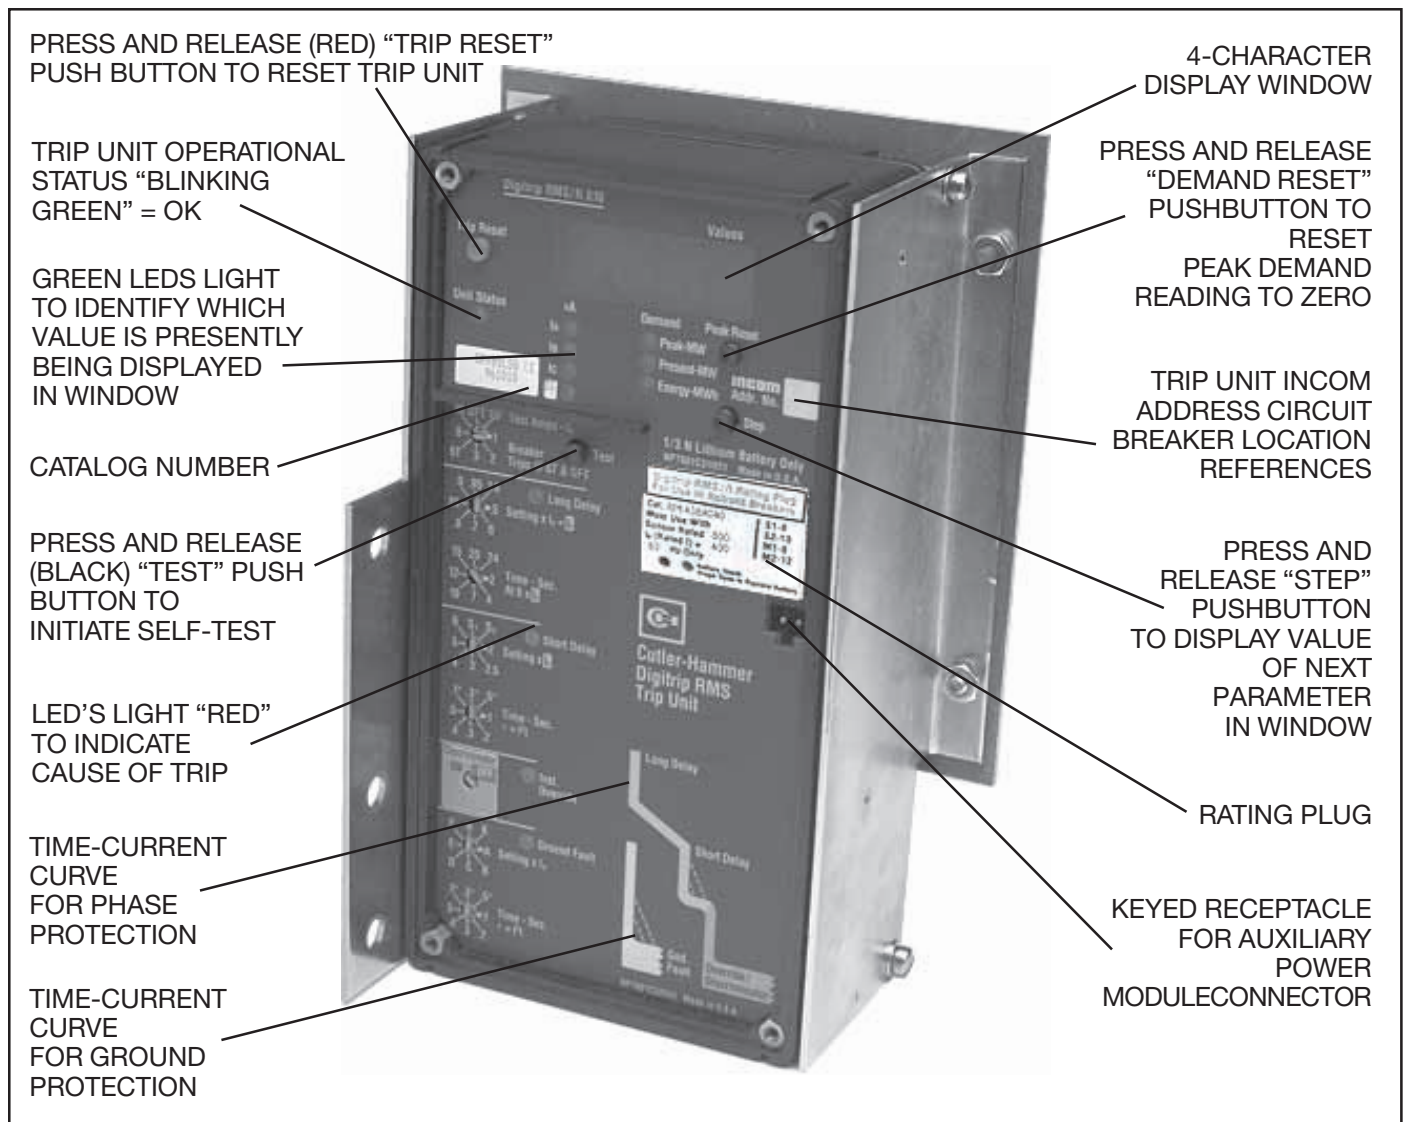

Fig. 10-4 Digitrip Trip Unit Display Panel
**NOTE:** Digitrip 810 & 910 Trip Units will already contain a factory-set Baud Rate and Address which, in general, will not apply to your network. For proper communications, each Trip Unit Address and Baud Rate must be set to the values applicable for your network. Similarly, prior to the installation of a Trip Unit into its Circuit Breaker, or prior to installation of a Circuit Breaker into its compartment (after maintenance for example), the user should verify that the Baud Rate and Address are correct. Failure to use the correct Baud Rate or Address can confuse the communication system. It is recommended that the appropriate Baud Rate, Address, and Circuit Breaker Cell location or bus or circuit reference be recorded in the spaces provided on the Trip Unit Display Panel, for future reference (see Figure 10-4).
1. Press and continue to hold in the "Trip Reset" push button (see Figure 10-4).
4. To decrement the Address, press and release the "Step" push button, also located near the display window (see Figure 10-4). The Address will decrease by one unit each time you press the Step push button. If you press and hold the Step push button, the Address will decrease continuously, slowly at first, and then faster as you continue to hold the button in. (Continue to hold in the Trip Reset push button while you do this.)
**NOTE:** As shown in Figure 10-4, there is a space to record both the INCOMM Address and the Cell Number (to identify the Breaker location within the assembly) to the left and below the display window. Because Trip Units and Circuit Breakers of the same